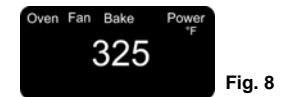

Fig. 8
- Press "Oven" button one (1) time to select the "Bake" feature without convection, or two (2) times to select "Conv/Fan Bake" for convection baking. (Fig. 8)